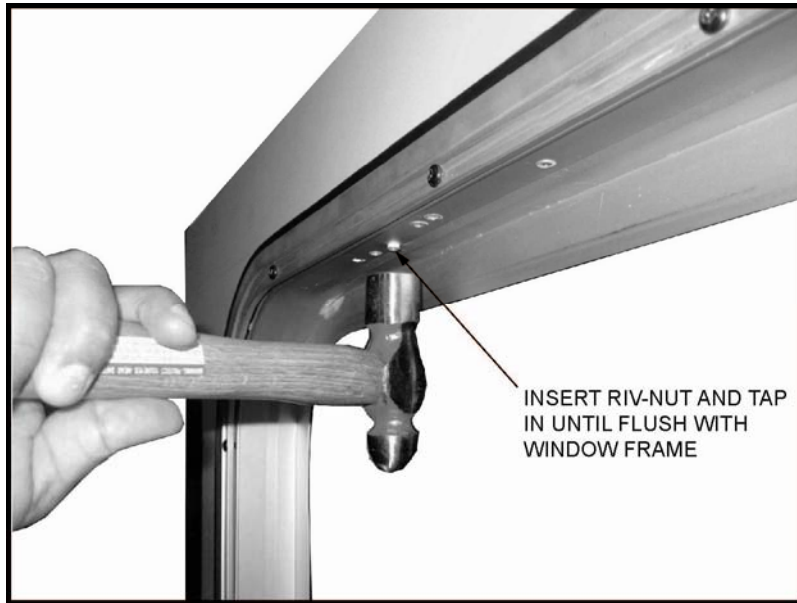

FIGURE 5: INSTALL RIV-NUT
4. Refer to **Figure 5**. Insert riv-nut into holes and tap in using an 8 oz. ball pein hammer until flush with window frame.